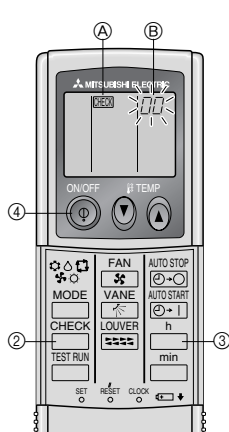

Fig. 7-2
7.3. Self-check (Fig. 7-2)
- ① Turn on the power.
- ② Press the **CHECK** button twice.